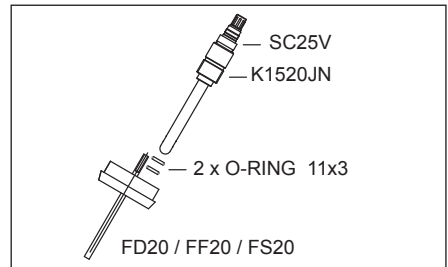

Figure 4
- FF20 flow fitting / FS20 subassembly / FD20 immersion fitting (see fig 4)